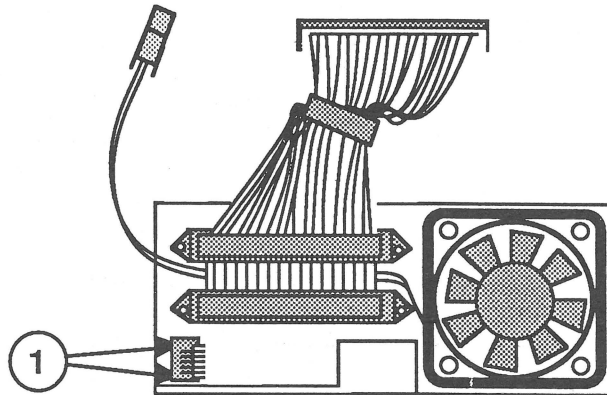

FIGURE 8
3. Use your fingers or a pair of needlenose pliers to squeeze down on all four plastic arms on the back of the switch (Figure 8, #1). Pass the switch from inside to outside through the opening in the fan frame.